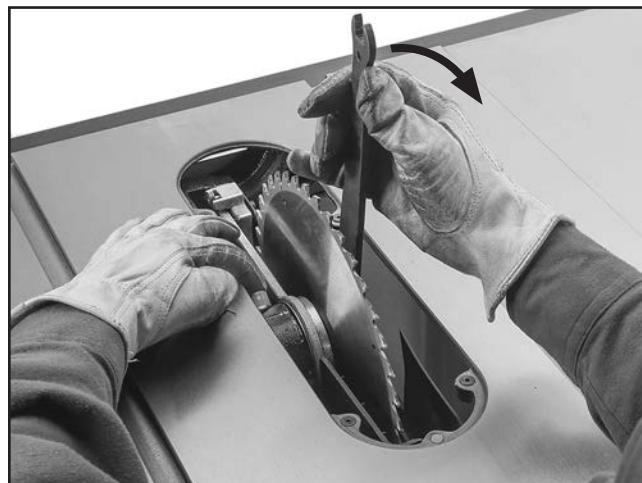

Figure 44. Example of removing table saw blade.
4. While pressing arbor lock, use included arbor wrench to loosen and remove arbor nut, flange, and blade (see **Figure 44**). Arbor nut has right-hand threads; rotate counterclockwise to loosen.